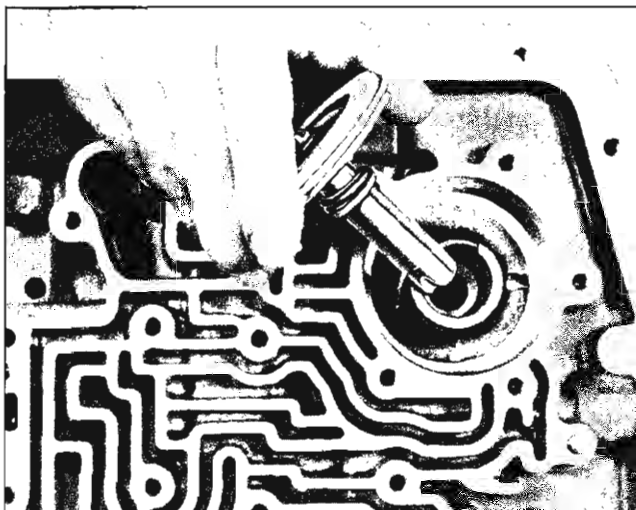

Fig. 7A-26 Low Servo Piston and Return Spring
1. Install low servo piston and return spring in bore in transmission (Fig. 7A-26) and engage notch